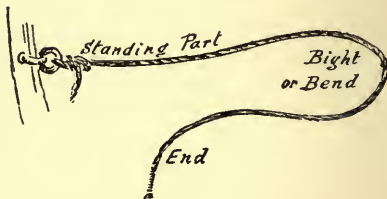

FIG. 1.
N.B. It is important in making knots to take plenty of rope in hand, and not to make them too near the end. The technical names for the various parts of a rope are (see fig. 1)—1. The *standing part*; 2. The *bight or bend*; 3. The *end*.